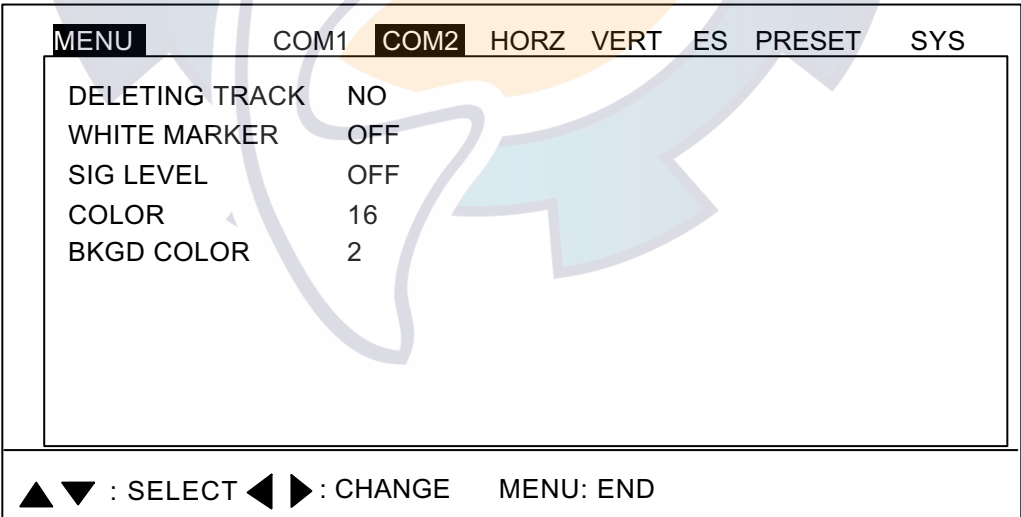

Figure 1-6 COM2 menu
2. The last-used menu is displayed. (In Figure 1-6 the COM2 menu is selected.) To select a different menu, press ▲ to select MENU at the top of the screen and then press ◀ or ▶ to select menu desired.